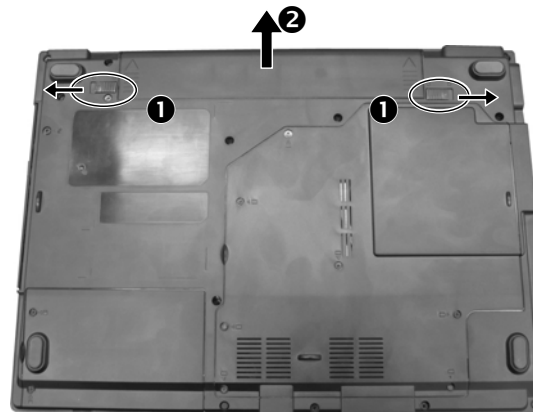

Figure 2-1 Remove the battery pack
2. Slide the two release lever outwards to the “unlock” (🔓) position (❶), while take the battery pack out of the compartment (❷). (Figure 2-1)